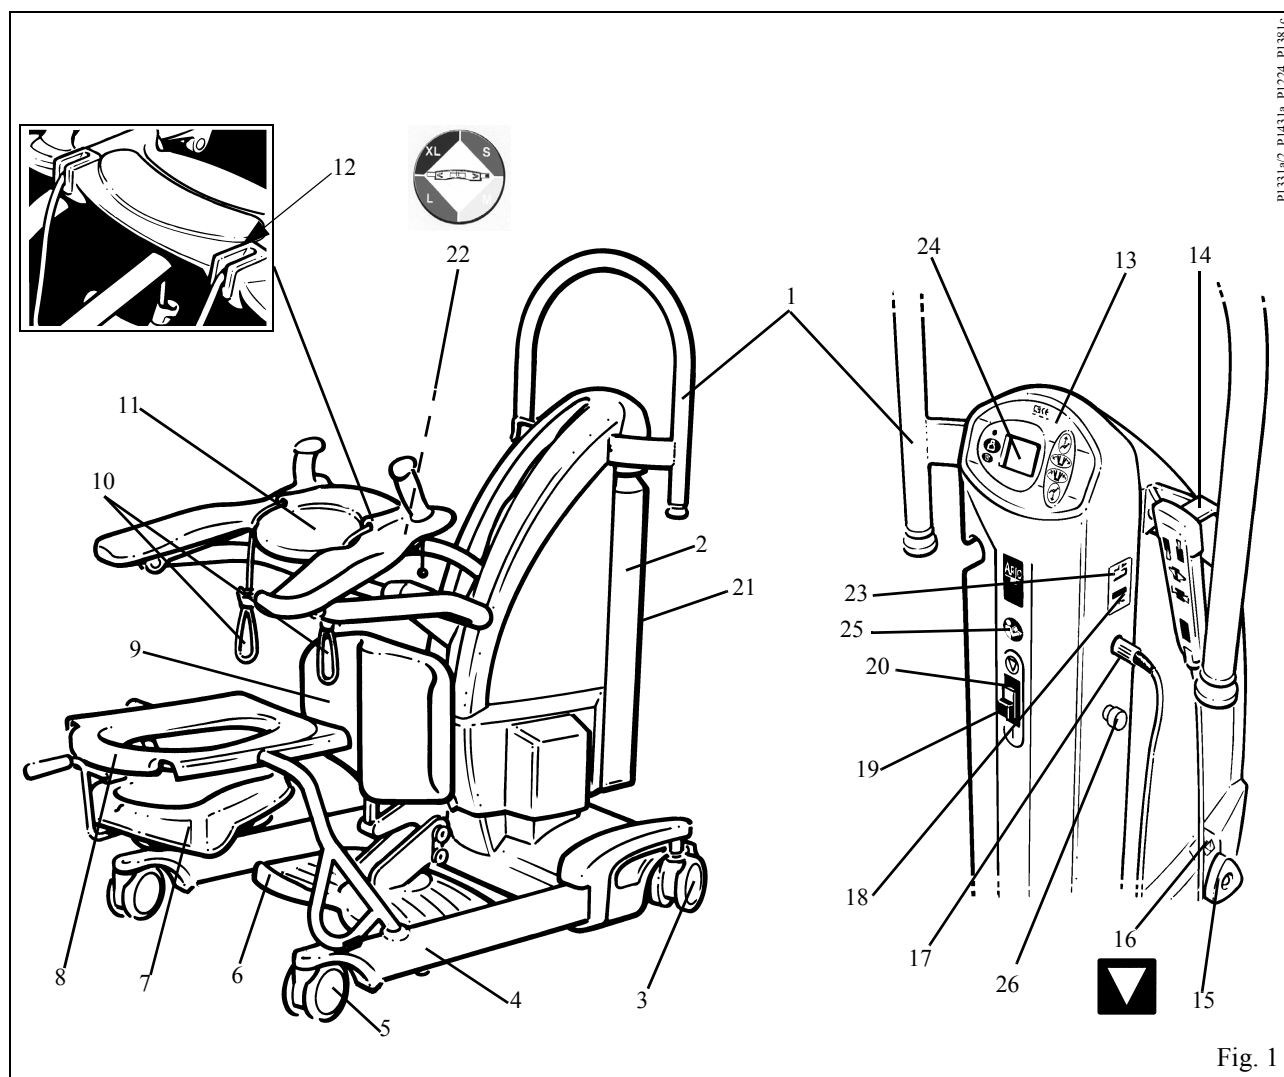

Fig. 1
The touch panel label on the dual control panel displays several instruction symbols. The letter (i) shown on the open book icon indicates 'information', and is an instruction to always read the operating instructions before use. (See Fig 1).
References to left and right of the lifter in these instructions are as viewed from the rear of the *Sara Plus*, i.e. viewed from the dual control panel (see Fig. 1)
Ensure that the green reset button situated on the back of the lifter cover is pressed in. (see inset to Fig. 1).
Check that the system failure lower override knob is turned fully clockwise and finger tight, (see Fig. 1).
A circular label is fitted to the central lifting tube for quick colour to size reference. (see fig 1)
**Emergency stop button (red):-** (see Fig. 1) If, in an emergency, you have to immediately stop any powered movement, (other than by releasing pressure on the button either on the handset or dual control panel), press the emergency stop button situated on the side of the cover. (See Fig. 1).
**Power on/Reset button (green):-** (see Fig. 1) On the rear of the case below the dual control panel. Press this button to turn on power to the lifter. Also used to reset if the automatic overload fuse has operated (indicated by the button projecting outwards slightly). If the fuse has operated and once reset, operates again, withdraw the lifter from use and contact ArjoHuntleigh Service department or their appointed distributor.
**Power off button (red):-** (see Fig. 1) On the rear of the case below the dual control panel. Press this button to turn off power to the lifter.
**System failure lower override:-** This can be used in the event of main control failure. In the unlikely event that the control handset or dual control panel fails to operate the lifter, with a patient still supported by the sling, provision for lowering has been made, using the "lower override knob", situated on the right hand side of the main cover (see Fig. 4). A label situated above the switch is for quick and easy recognition (see Fig. 1) To operate the lower override, turn the knob anti clockwise half a turn, to cease lowering turn the knob clockwise until finger tight only (do not over tighten), only use this knob in the event of normal control failure do not use it for normal function lowering.
**Battery Discharge Indicator:-** is a small LED display which shows the charge condition of the lifter battery. (See Fig. 1 and also 'Battery Charging Section' for complete description).
**Hour Meter:-** Is a small LCD display (See Fig. 1) which shows the total duration of powered operation (in hours). This is primarily intended as an aid to service engineers and to help the attendant calculate servicing intervals.
**Arc-Rest (with handgrips):-** Integral Part of the Lifting mechanism of the lifter, the intuitive and supportive armrests allow patient participation and comfort during the lifting procedure. (See Fig. 1)
**Proactive Pad™:-** This is a reactive lower leg support (Fig. 1 and 7), which enables the patient to be lifted comfortably and effortlessly. It can be adjusted vertically for differing lower leg lengths and is sprung to stay in contact, when the patient's legs move radially during the lifting procedure. To adjust, hold the Proactive Pad™ with one hand (see Fig. 7) and slacken the clamping screw knob